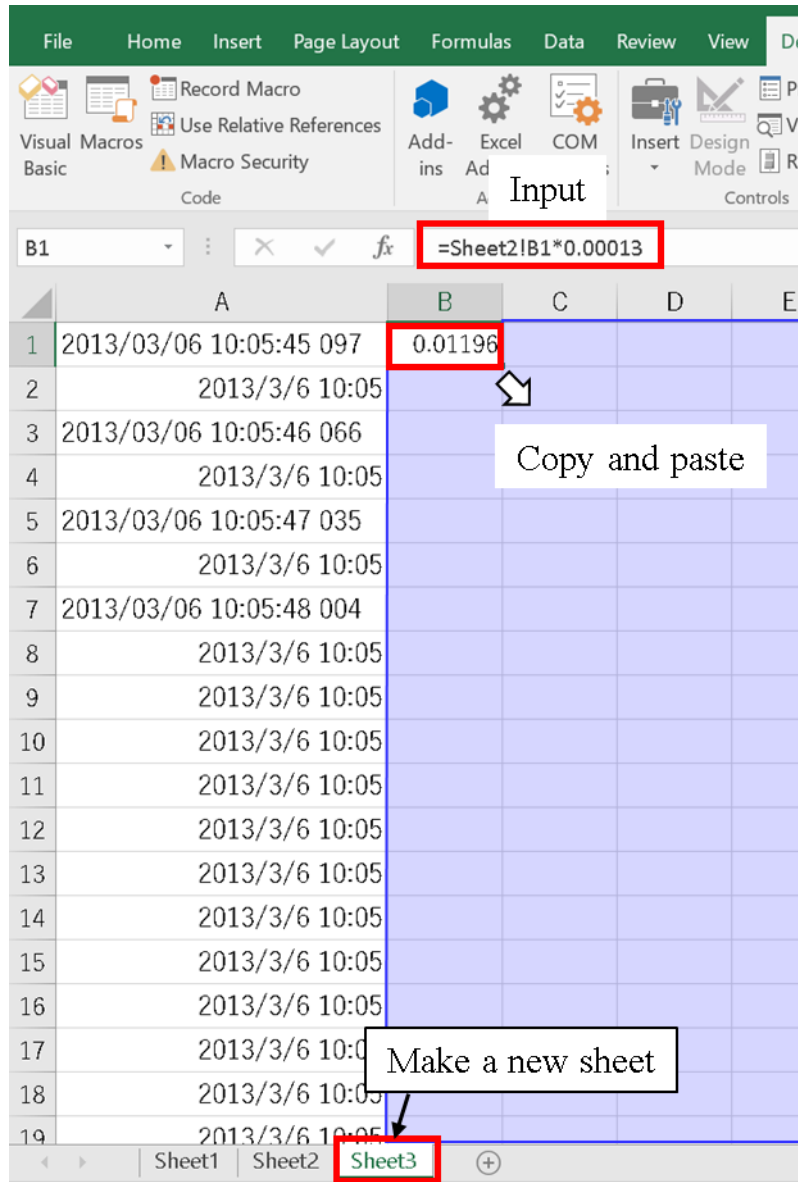

Figure 24 Process of converting raw data into voltage data.
- 7) Make an additional new sheet (the sheet is written as “Sheet 3” below). Copy column A of “Sheet 2” and paste to column A of “Sheet 3”. Select cell B1 of “Sheet 3” and input “=Sheet2!B1*0.00013” (Figure 24). Sheet 2 should be renamed, then input the name of the “renamed Sheet 2” instead of just Sheet 2 in the equation. Copy cell B1 of “Sheet 3”. Select cell B1 to cell ADU x (where x is the number of rows entered in the 50-kHz data in “Sheet 2”), and then paste.